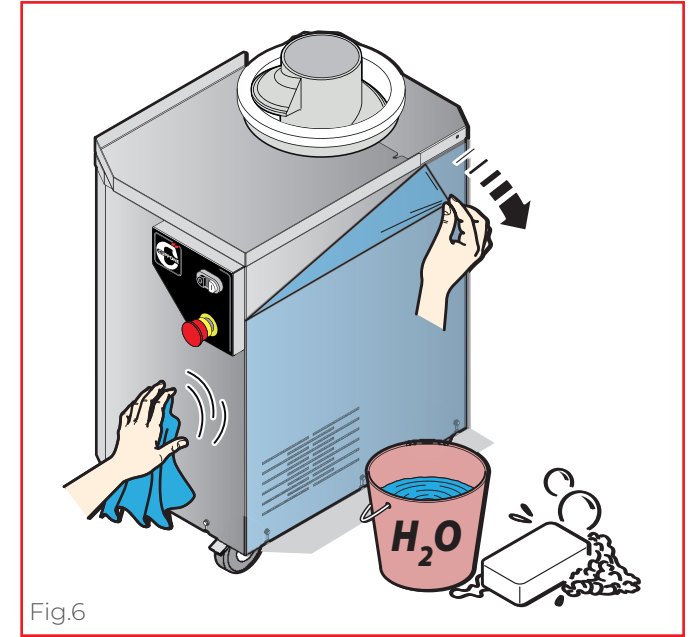

Fig.6
► Fig.6 Carefully remove the protective film. If any glue residue is left on the surfaces, remove it with soapy water but without any corrosive or abrasive products or sharp or pointed instruments.